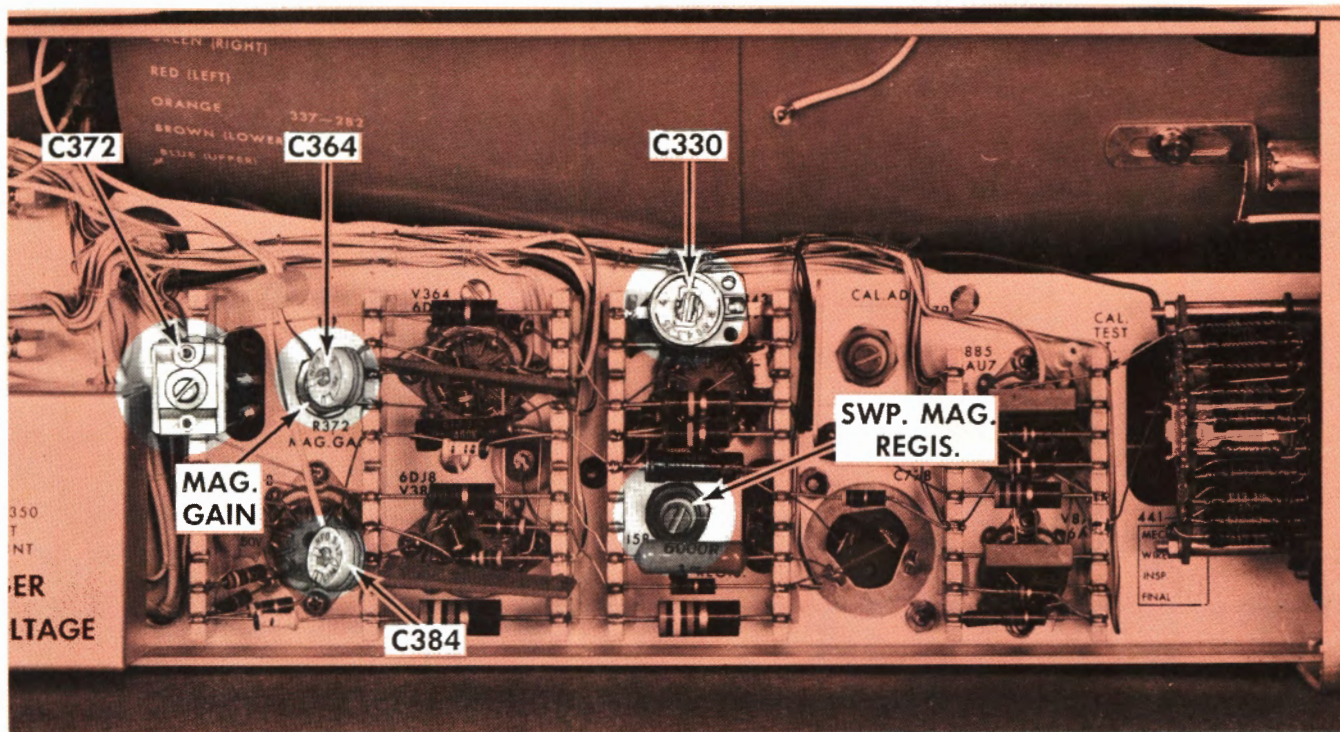

Fig. 7-11. Top view of indicator unit showing the location of upper beam adjustments.
Adjust the 'A' LEVEL control for a stable square-wave, displayed vertically. Adjust C330 (see Figure 7-11) for optimum square wave response. Place the Upper Beam HORIZ. DISPLAY switch at EXT. ATTEN. X10, increase
Connect 1 millisecond and 100 microsecond markers from the Type 180A to the vertical INPUT and adjust the 'B' LEVEL control for a stable display. Adjust the MAG. GAIN (see Figure 7-11) for a display of one large marker every
Place the Upper Beam HORIZ. DISPLAY switch at 'B' X.2. Position the 1 millisecond markers so that the first time marker is directly behind the center vertical graticule line. Set the Upper Beam HORIZ. DISPLAY at 'B' X1 and adjust the SWP. MAG. REGIS. control (see Figure 7-11) so the first marker again falls behind the vertical centerline (Fig. 7-13).
Set the 'B' TIME/CM to .1 MILLISEC, apply 10 MICROSECOND markers from the Type 180A to the Upper Beam Vertical INPUT, and adjust the 'B' LEVEL control for a stable display. Place the Upper Beam HORIZ. DISPLAY switch at 'B' X.2 and horizontally position the trace so that the first time marker is aligned with the center graticule line. Set the Upper Beam vertical VOLTS/CM switch at 1 VOLT. Then switch the 'B' TIME/CM switch to 50 μSEC and check for horizontal shift of the first marker. If shift occurs, adjust C330 (see Figure 7-11) until the first marker of both the .1 MILLISEC and 50 MICROSEC positions occur at the same point.
** See Figure 7-11.